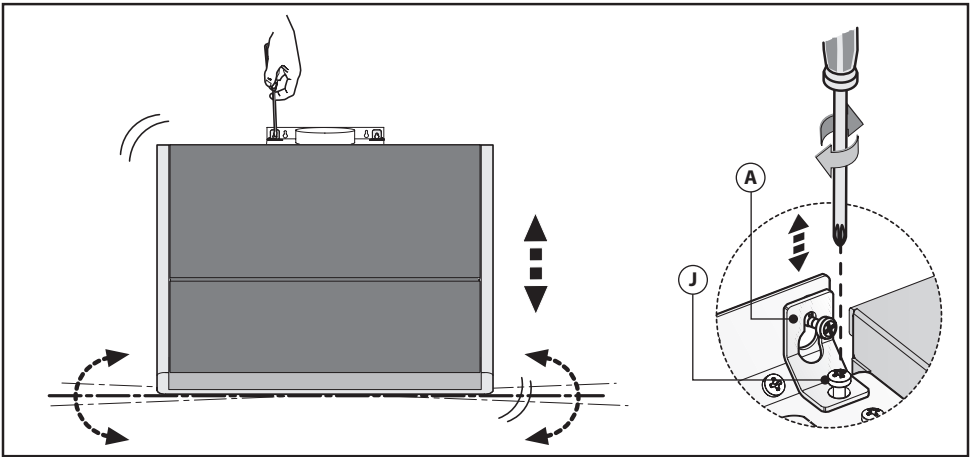

Fig.7
- Make sure the 2 levelling screws **J** are tightened (Fig.7).
- Align the appliance horizontally using the two levelling screws **J** (Fig.7).